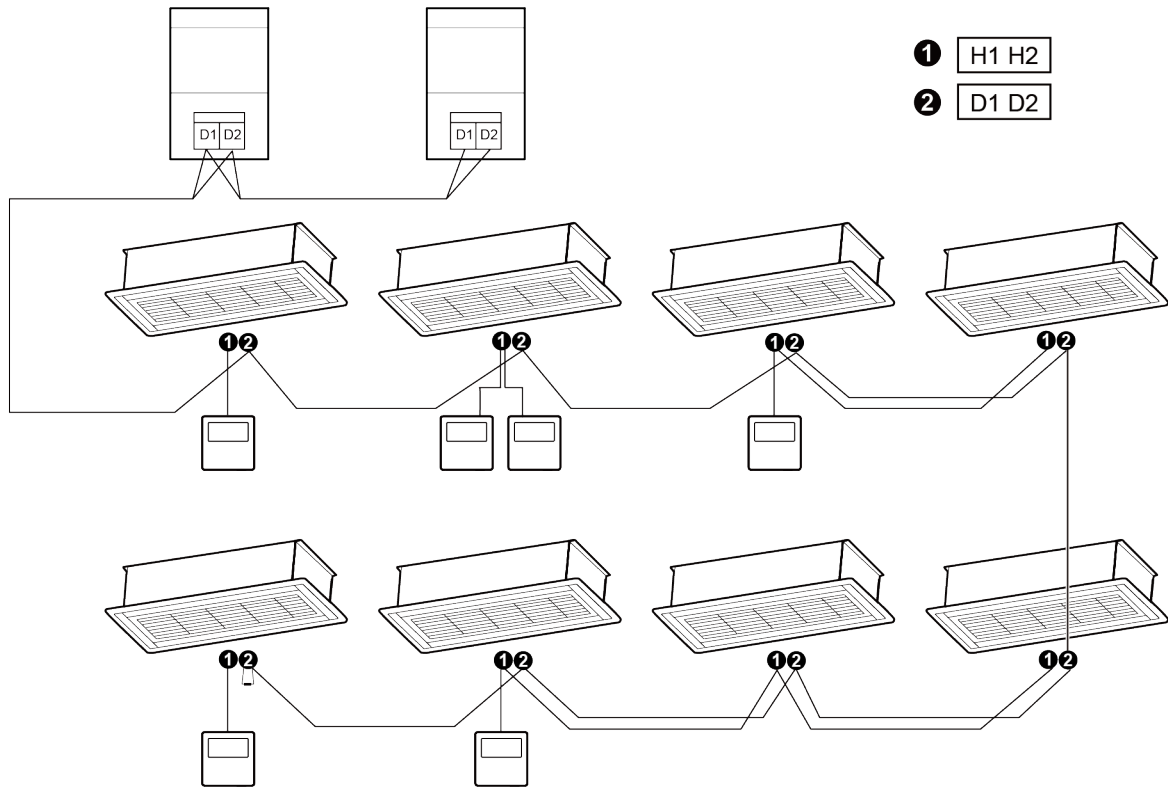

Fig.5.5.1
- (1) Communication wire of indoor unit and outdoor unit (or indoor unit) is connected to D1, D2.
- (2) Wired controller is connected to H1, H2.
- (3) One indoor unit can connect two wired controllers that must be set as master one and slave one.
- (4) One wired controller can control 16 indoor units in maximum at the same time. (As shown in Fig.5.5.1)